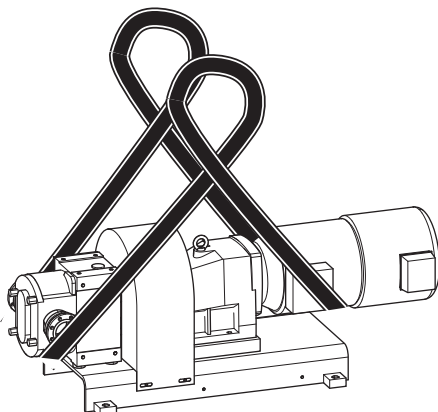

Fig. 10 Moving with round sling
Wrap the round sling around the gear motor; see *fig. 10*, "Moving with round sling," page 10.
2. Wrap the other end of the round sling around the pump casing; see *fig. 10*, "Moving with round sling," page 10.